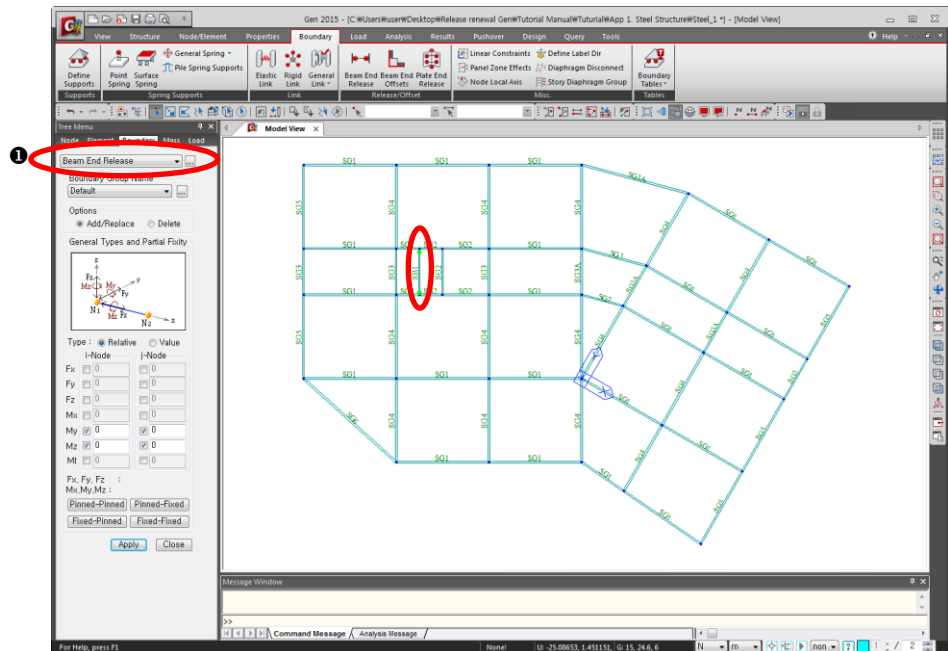

Figure 1.17 Input the Beam End Release condition
Beam End Release (Refer to ❶ of Figure 1.17)